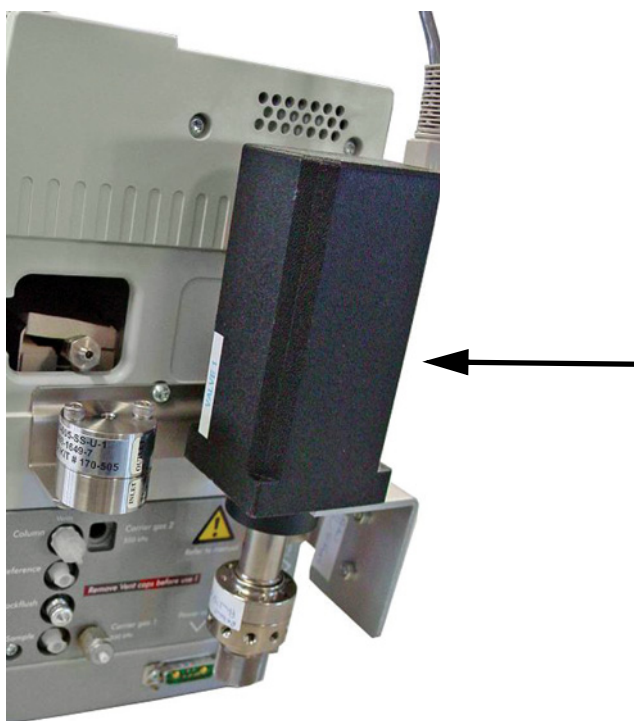
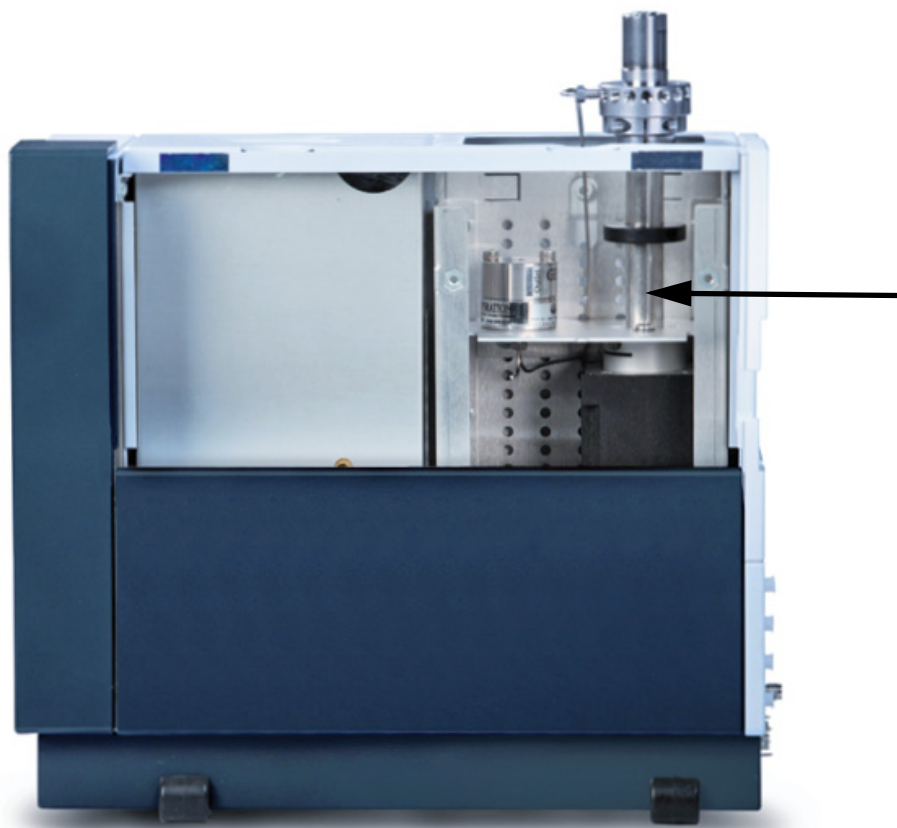

Figure 2 The SSV mounted on the rear of the Micro GC
Figure 3 The SSV mounted on the integrated accessory bracket
The Micro GC drivers for both EZChrom and OpenLAB CDS (EZChrom and ChemStation editions) include functionality for direct connection of one or more SSVs to the Micro GC. EZChrom 3.3.x supports a maximum of two (2) valves, and OpenLAB CDS EZChrom and OpenLAB CDS ChemStation support up to three (3). The valves connect to COM Port 2 on the main board of the Micro GC. Examples for mounting the SSV are displayed in Figure 2 and Figure 3.